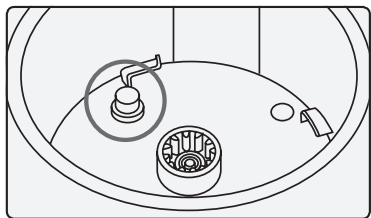

Figure 1
- Ensure that the base and temperature sensor of the jug are kept clean for its correct operation (Figure 1).